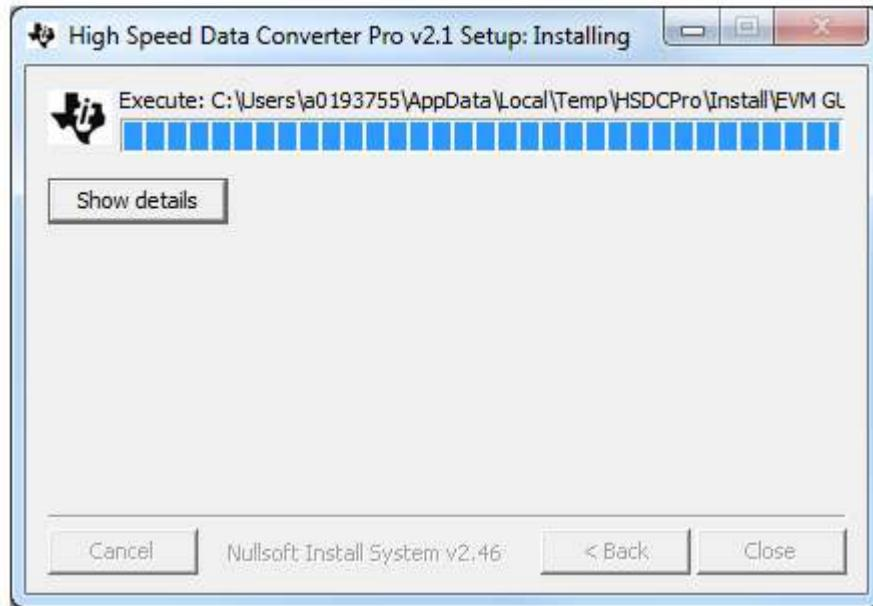

Figure 9. HSDCpro Install (h)
- The window in Figure 9 appears briefly to complete the process.